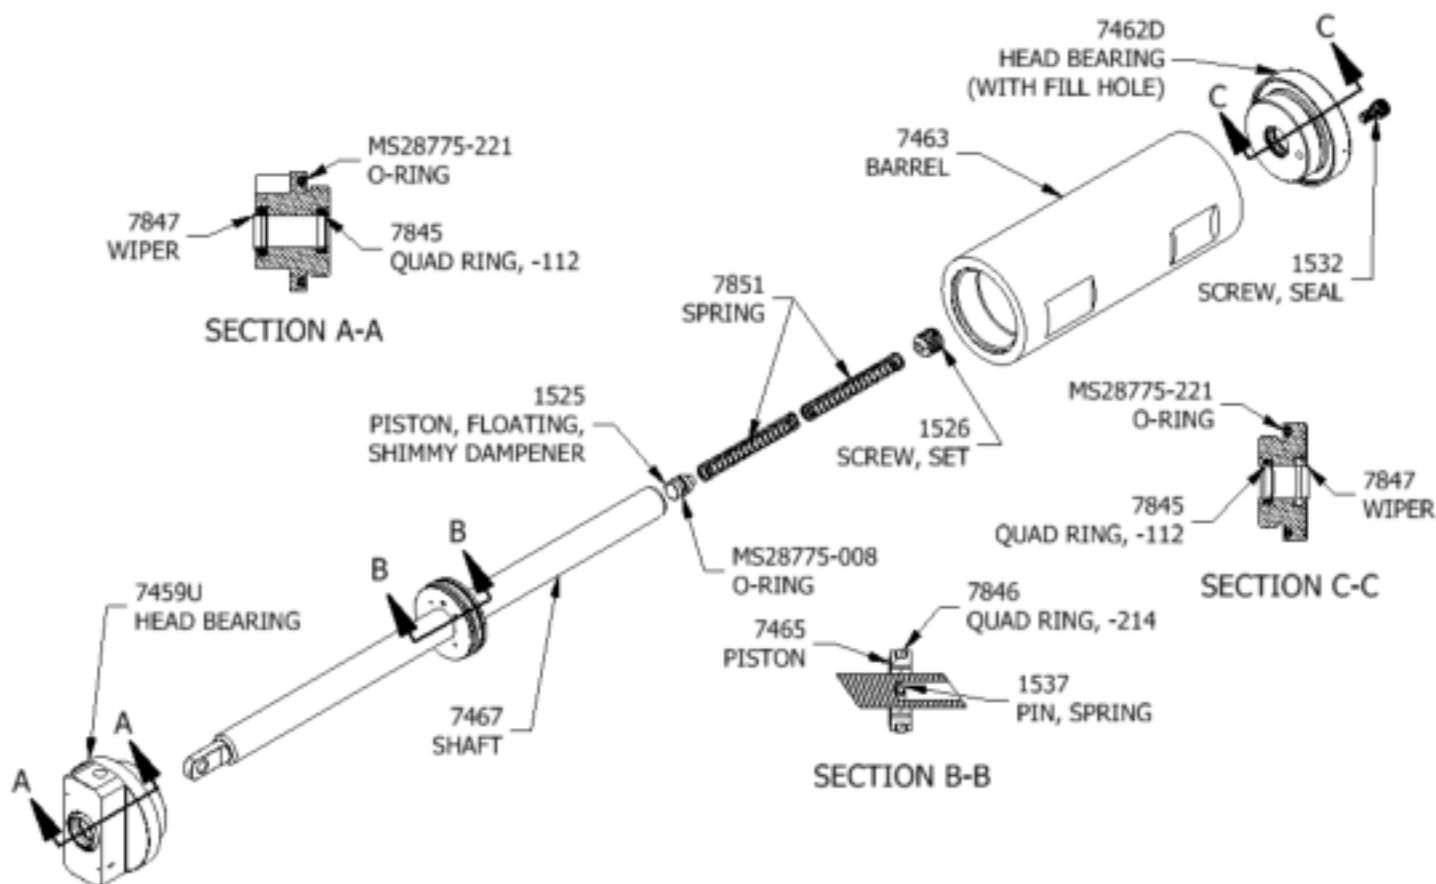

Figure 1: Subcomponent Part Numbers
The following service information is to be utilized when servicing the McFarlane Shimmy Dampener Assembly. NOTE: McFarlane Aviation, LLC. seal kit SDKT-8 and replacement parts are available for purchase if the originals are not re-useable (See Figure 1 for subcomponent part numbers).
See Figure 1 for reference.
- 7) Install the head bearings onto the shaft and thread them into the barrel. Ensure the shaft orientation, with respect to the head bearings, is correct (see Figure 1). Tighten the head bearings to the barrel with a torque of 50 ft-lbs.